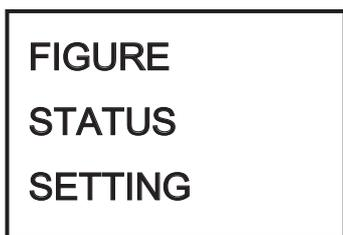

Fig.3 : Main menu
3) Press the ENT button, it will change to main menu, see Fig3 ,